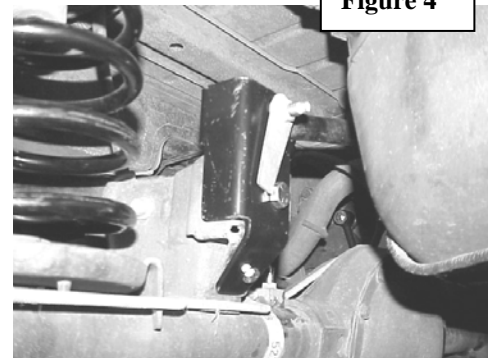

Figure 4
23. Install the new Warrior, Inc coil springs making sure that the rubber damper is positioned in the upper mount. It will be necessary to use a coil spring or strut compressor to install the new coil springs. Jack up the axle to compress the coil spring and to align the track rod with the new mounting point and install the stock mounting hardware. **See Figure 4 & 5 above.**